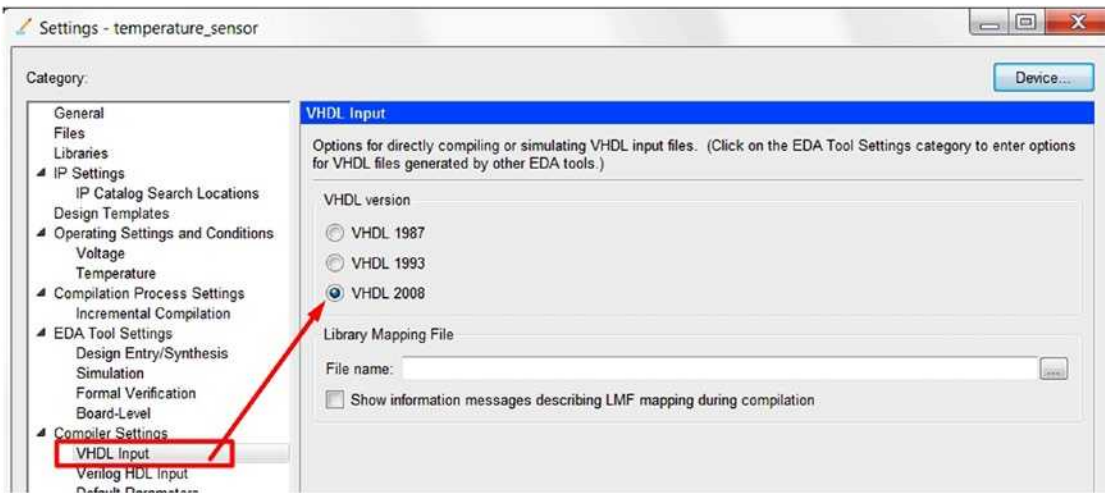

Figure 13-29. Setting for VHDL 2008
7. In the Compiler Setting ► VHDL Input, select VHDL 2008. Figure 13-29 shows the setting.